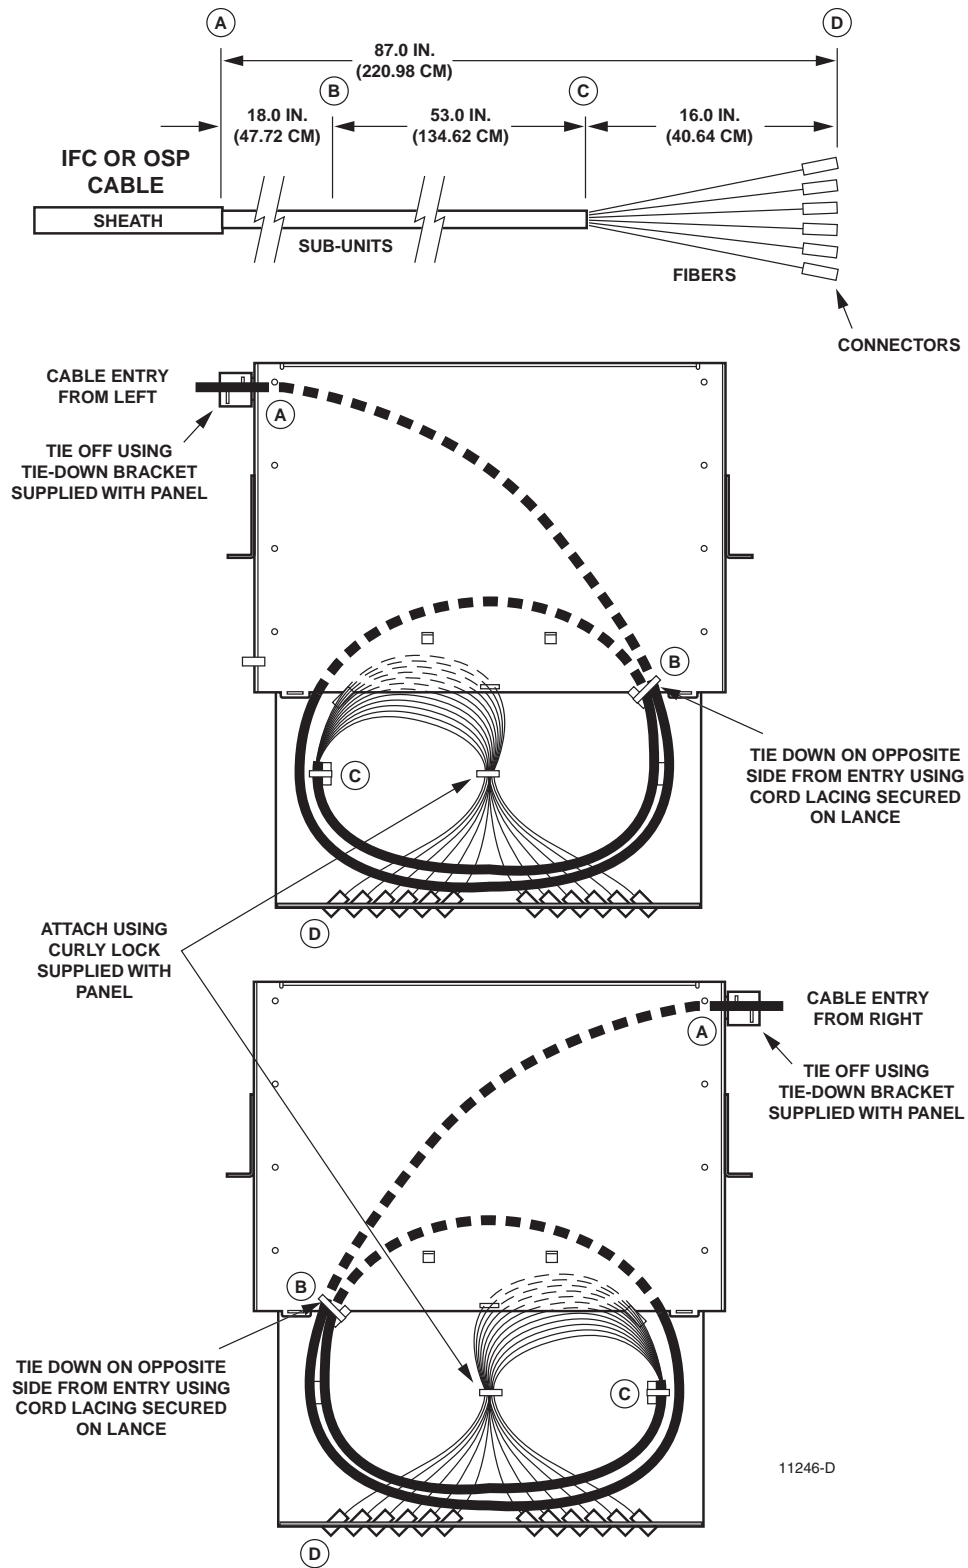

Figure 6. Cable Breakout for 12-Fiber Panel
Figure 6 shows cable routing options and breakout dimensions for the 12-fiber termination rack-mount panel. The cable can enter from above or below the chassis and from the left or right side.
1. Route the cable to the chassis and break out the cable corresponding to Figure 6.
4. Route the buffers within the chassis from the cable point of entry to the opposite side of the bulkhead deck, as shown in Figure 6.
5. Tie down the buffers in the location shown in Figure 6 using cord lacing secured to the lance.
6. At the buffer breakout point, fan out the fibers from the buffers and secure them using a curly lock at the location shown in Figure 6.